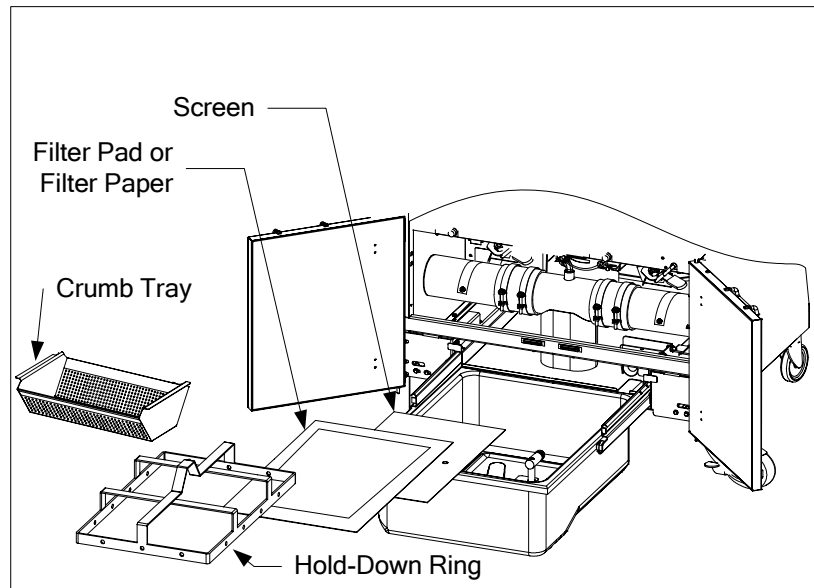

Figure 1
(See Figure 1) Clean all metal parts with a solution of All Purpose Concentrate and hot water then dry thoroughly.
4. Reinstall the crumb tray at the front of the pan. (See Figure 1)